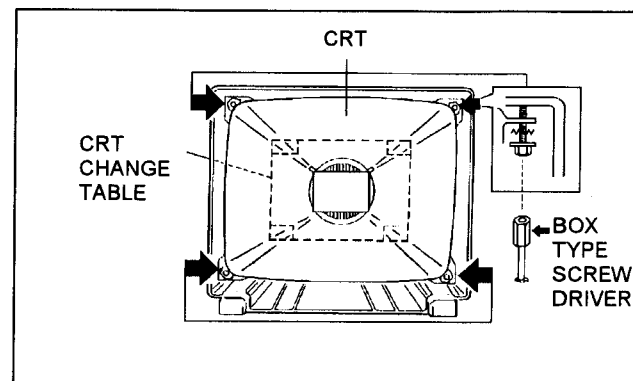

Fig. 4
- 2. While keeping the surface of CRT down, mount the TV set on the CRT change table balanced will as shown in Fig.4.
- 3. Remove 4 screws marked by arrows with a box type screw driver as shown in Fig.4.